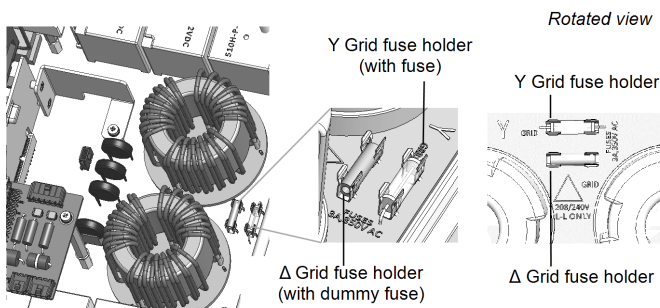

Figure 20: Fuse locations and markings
To set the inverter for 3-wire grid connection, you must move the fuse from the 4-wire fuse holder, marked as Y GRID, to the 3-wire fuse holder, marked as Δ GRID (see *Figure 20*).
2. Identify the fuse locations and the markings as described in *Figure 20*.